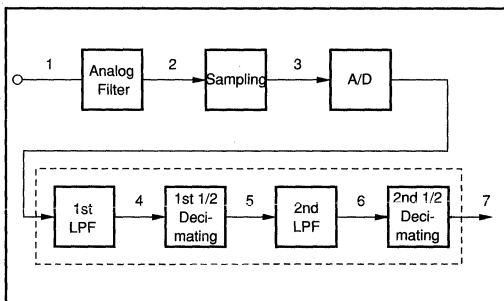

FIGURE 1. A Block Diagram of an Oversampling ADC Followed by Digital Decimation.
According to the Nyquist Theorem, digital audio recordings sampled at a rate of 44.1kHz (CD) or 48kHz (DAT) should accurately reproduce the full 20kHz audio bandwidth. Unfortunately, if frequencies higher than $1/2$ the sample rate are seen at the input of an analog-to-digital converter, aliasing back into the baseband will occur. At these sample frequencies, the way to assure that aliasing does not occur is to use complicated high order filters at the input of the ADC. These filters can be expensive and they can also have undesirable phase characteristics. These problems can be avoided by using an oversampling ADC (such as the PCM1750) with a decimating filter, where a high order filter can be replaced with a low order filter which has very little phase distortion (Figure 1).